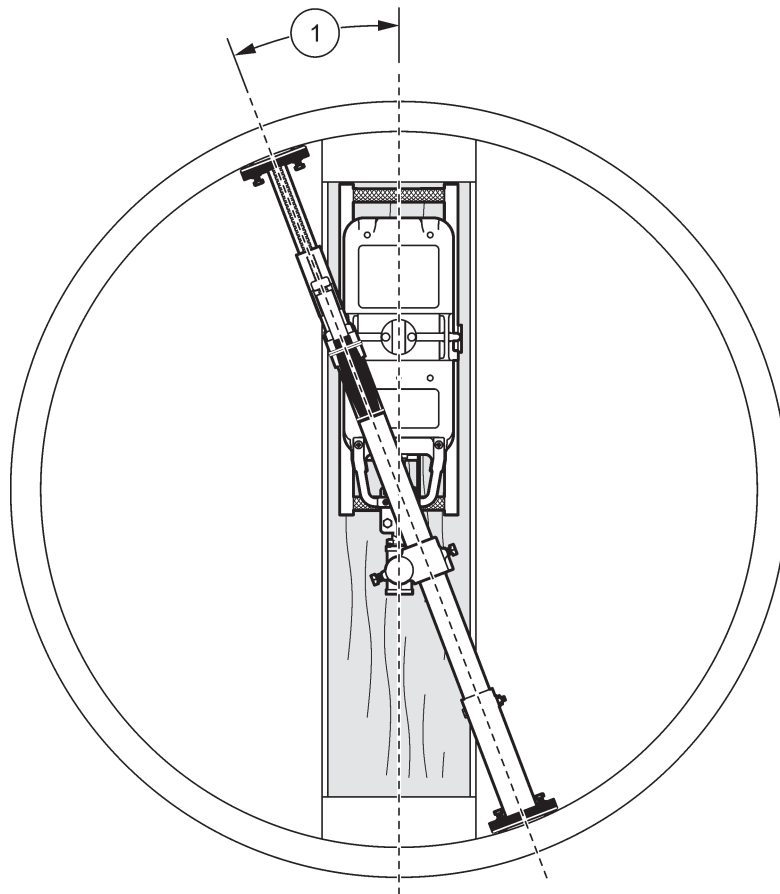

Figure 2 Installation in manhole
1. Install the jack bar assembly in the manhole. As a general rule, the jack bar should be approximately 20–24 inches above the crown (top) of the pipe. To prevent rotation along the axis of the jack bar assembly due to the weight of the sensor, install the jack bar assembly as parallel to the pipe as possible. A slight angle is required to use the optional retrieval pole and hook (See Figure 2).